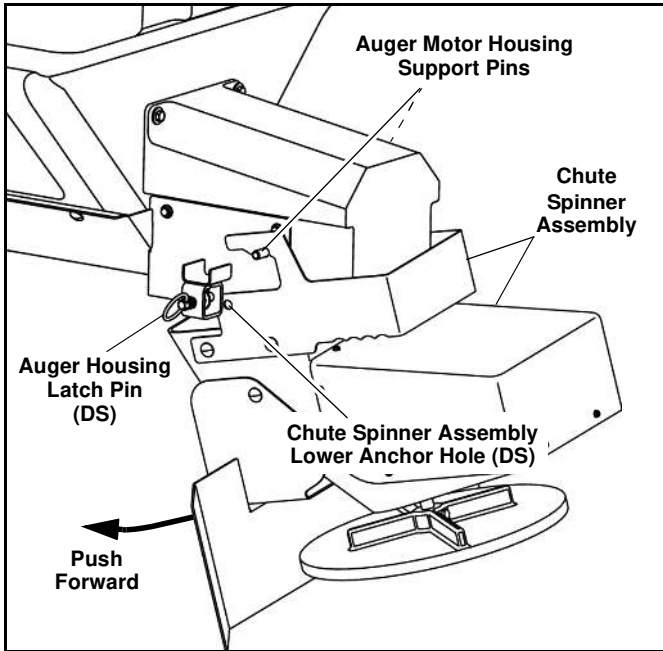

Figure 1-12
1. Position the chute spinner assembly on the auger housing support pins and push the bottom of the unit forward (See Figure 1-12).